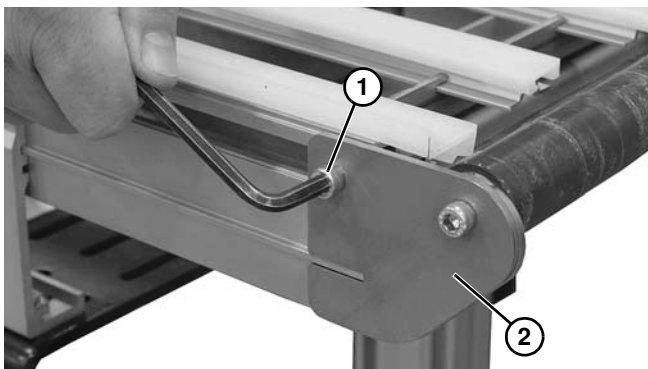

Figure 59
1. On both sides of conveyor, remove fastening screw (Figure 59, item 1).
2. Remove idler tail (Figure 59, item 2) from conveyor.